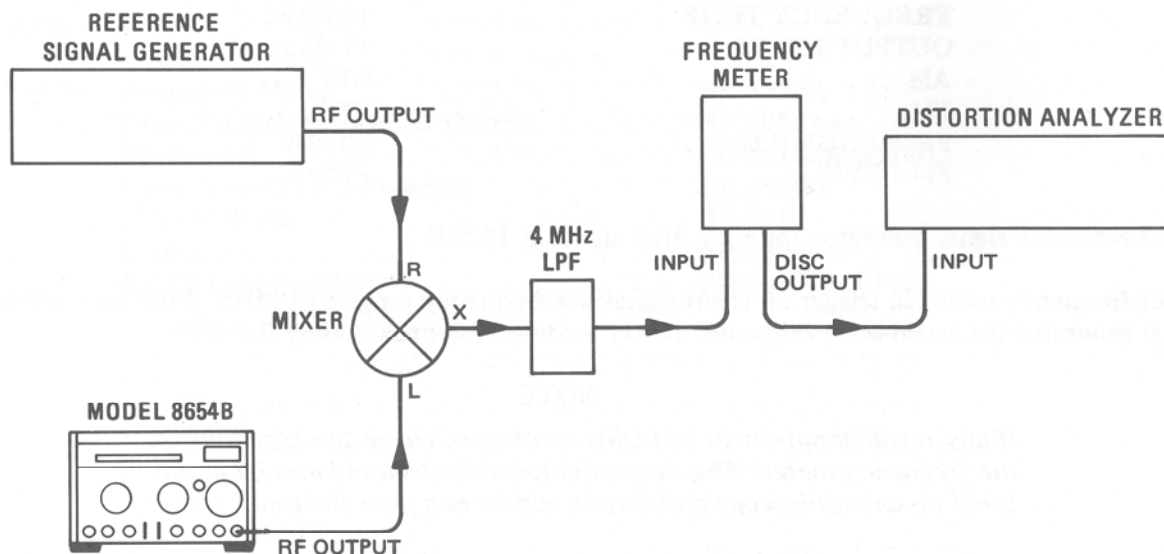

Figure 4-12. FM Distortion Test Setup
2. Connect equipment as shown in Figure 4-12 after setting test Signal Generator controls as follows: